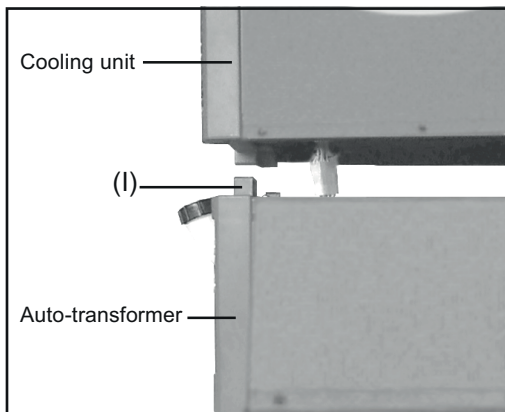

Fig.10 Inserting hexagon nuts
- 16 On the top of the auto-transformer, insert the hexagon nuts provided into the hexagon-shaped openings (I) on the fixing bars (as with cooling unit; see Fig.10)